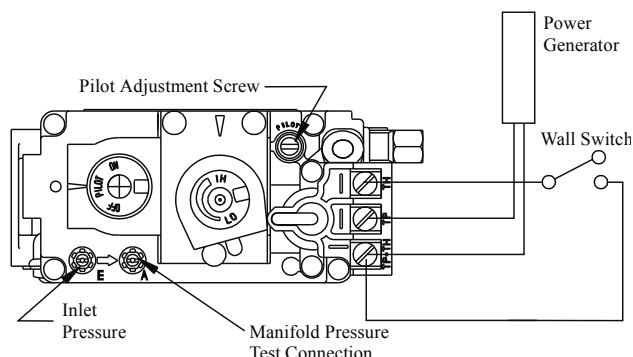

Figure 33. Sit Nova 820 gas valve.
1. Locate Pilot Adjustment Screw. (See **figure 33**.)
Pilot won't ignite	Disconnect remote wires and try to light pilot. If pilot now works, remote connections are faulty. Check wiring diagram figure 33 .
Main burner will not light	<ol style="list-style-type: none"> <li>1. Check wiring (see figure 33).</li> <li>2. Check wall switch for proper connection.</li> </ol>